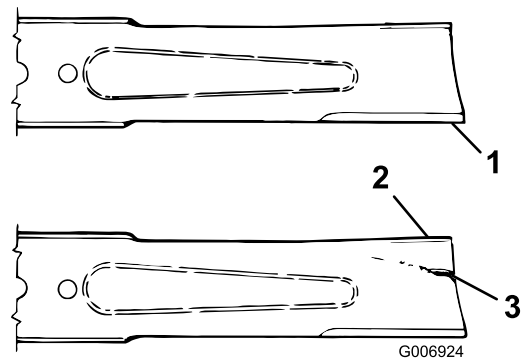

Figure 32
1. Inspect the cutting edges (Figure 32). If the edges are not sharp or have nicks, remove the blade and sharpen them; refer to Sharpening the Blade.
2. Inspect the blade, especially the curved area (Figure 32). If you notice any damage, wear, or a slot forming in this area, immediately install a new blade.